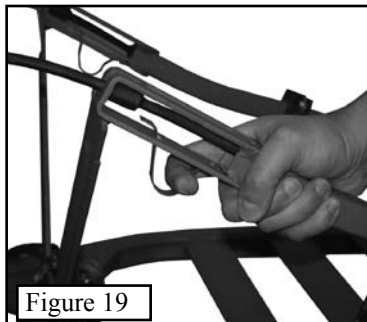

Figure 19
**Step 1.** Attach the base platform to the tree first. To do this, pull down and hold the QuickDraw cable spring as shown in **Figure 19**. This will release the locking tab from the cable, allowing you to remove it from the cable bracket.